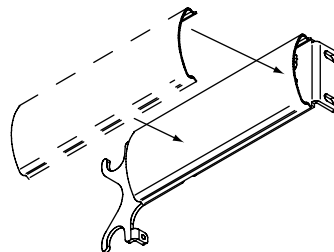

Figure 13
- ⑧ Snap end covers onto brackets (see Fig. 13).